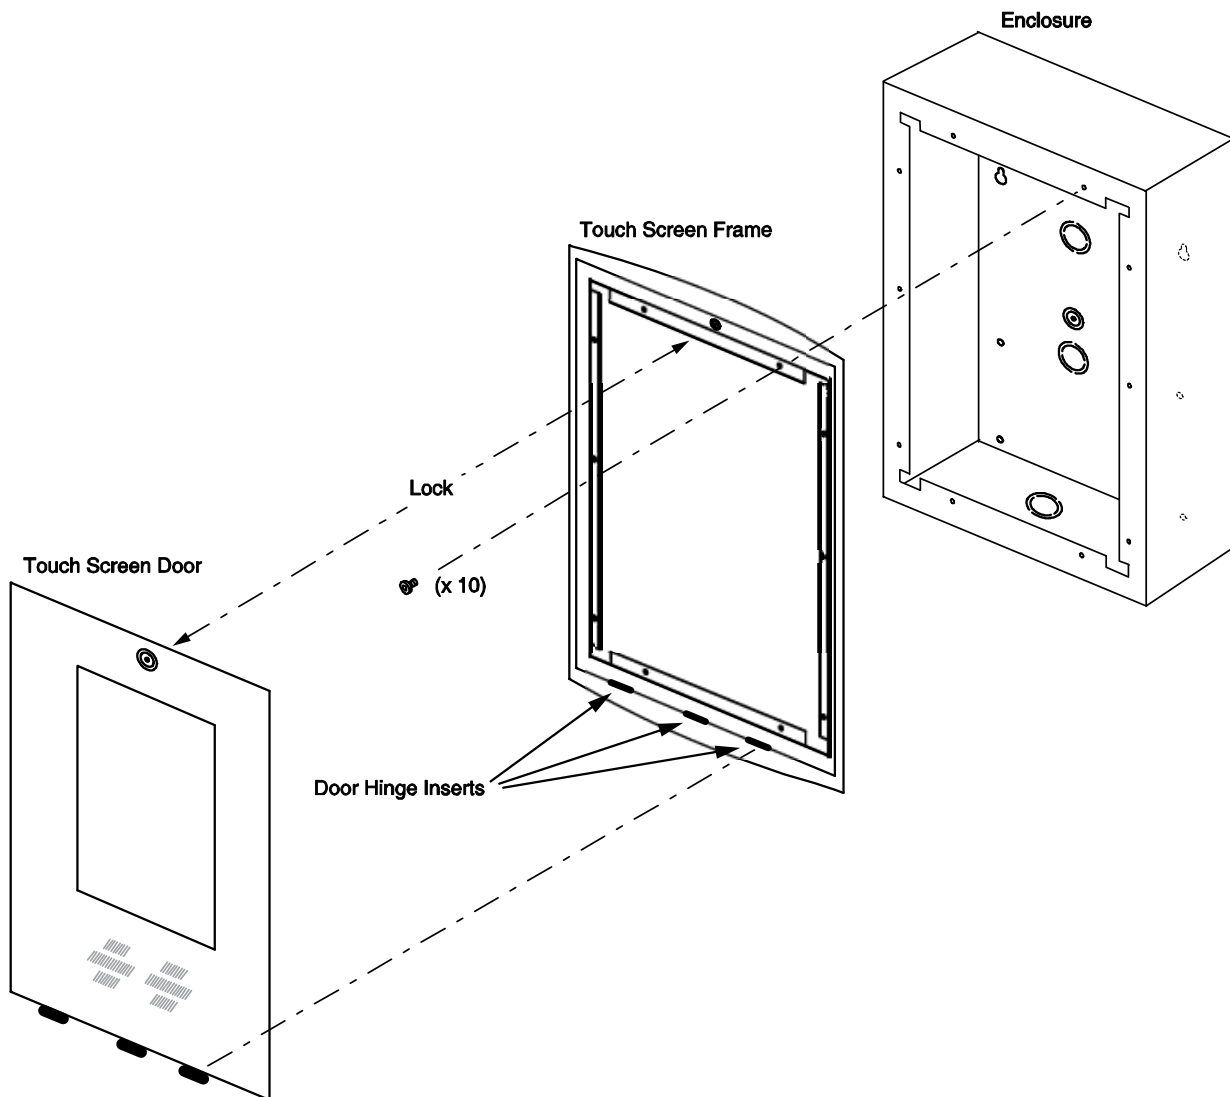

Figure 6. Touch Screen Frame and Door
The frame mounts directly to the enclosure and the door attaches directly to the frame as shown in Figure 6.
1. Secure the frame onto the enclosure using the supplied ten screws as shown in Figure 6.
2. Insert the Touch Screen door into the frame and lock into position as shown in Figure 6.